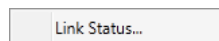

Figure 3-39 – C2C Traffic Conditions Context Menu
- **C2C Traffic Conditions Context Menu** (see Figure 3-39): This context menu provides the operator with options for traffic condition links available through the C2C interface.